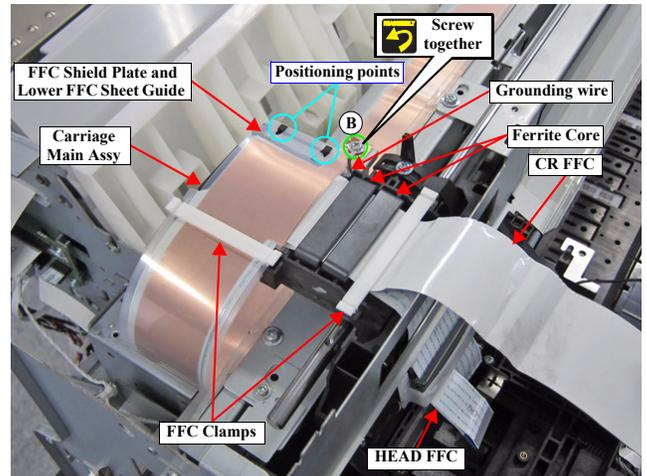

Figure 3-108. Removing the HAED FFC and CR FFC (Top of the CR UNIT)
- Pay attention to the positioning points (See Figure 3-108).